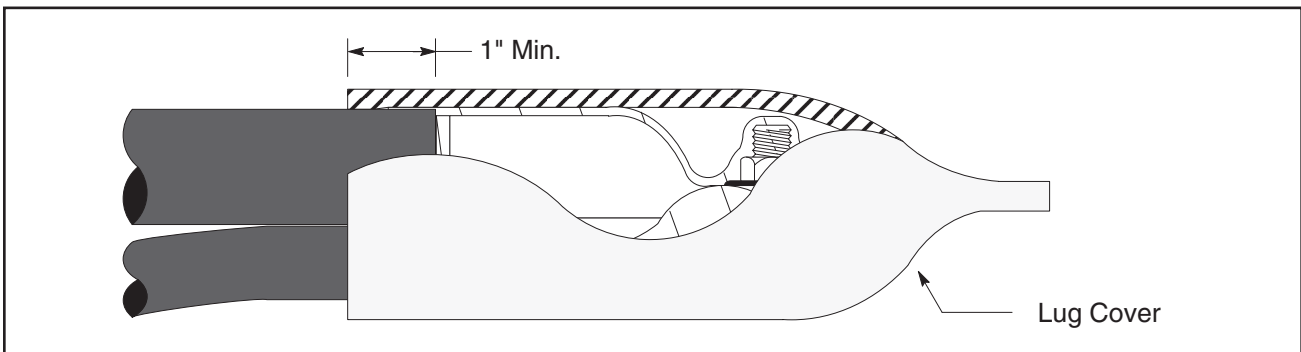

Figure 4
**NOTE: The lug cover must extend over the cable insulation by a minimum of 1". For a one hole lug it will be greater than 1" (Figure 4).**